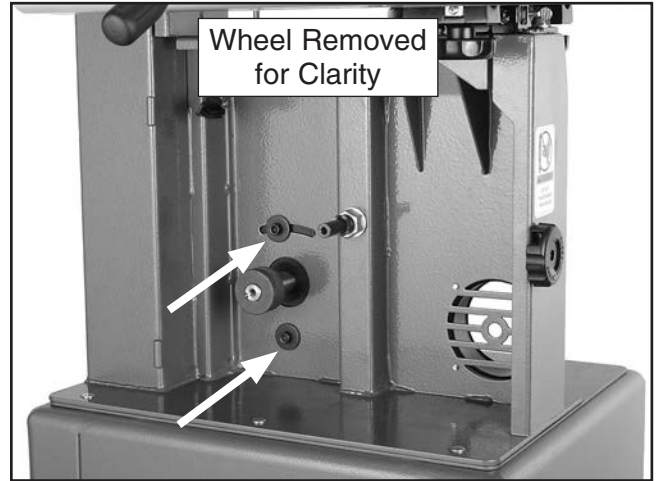

Figure 14. Installing motor (inside view).
9. From the inside of the bandsaw, loosely fasten the motor to the body with the cap screws and flat washers, as shown in **Figure 14**.